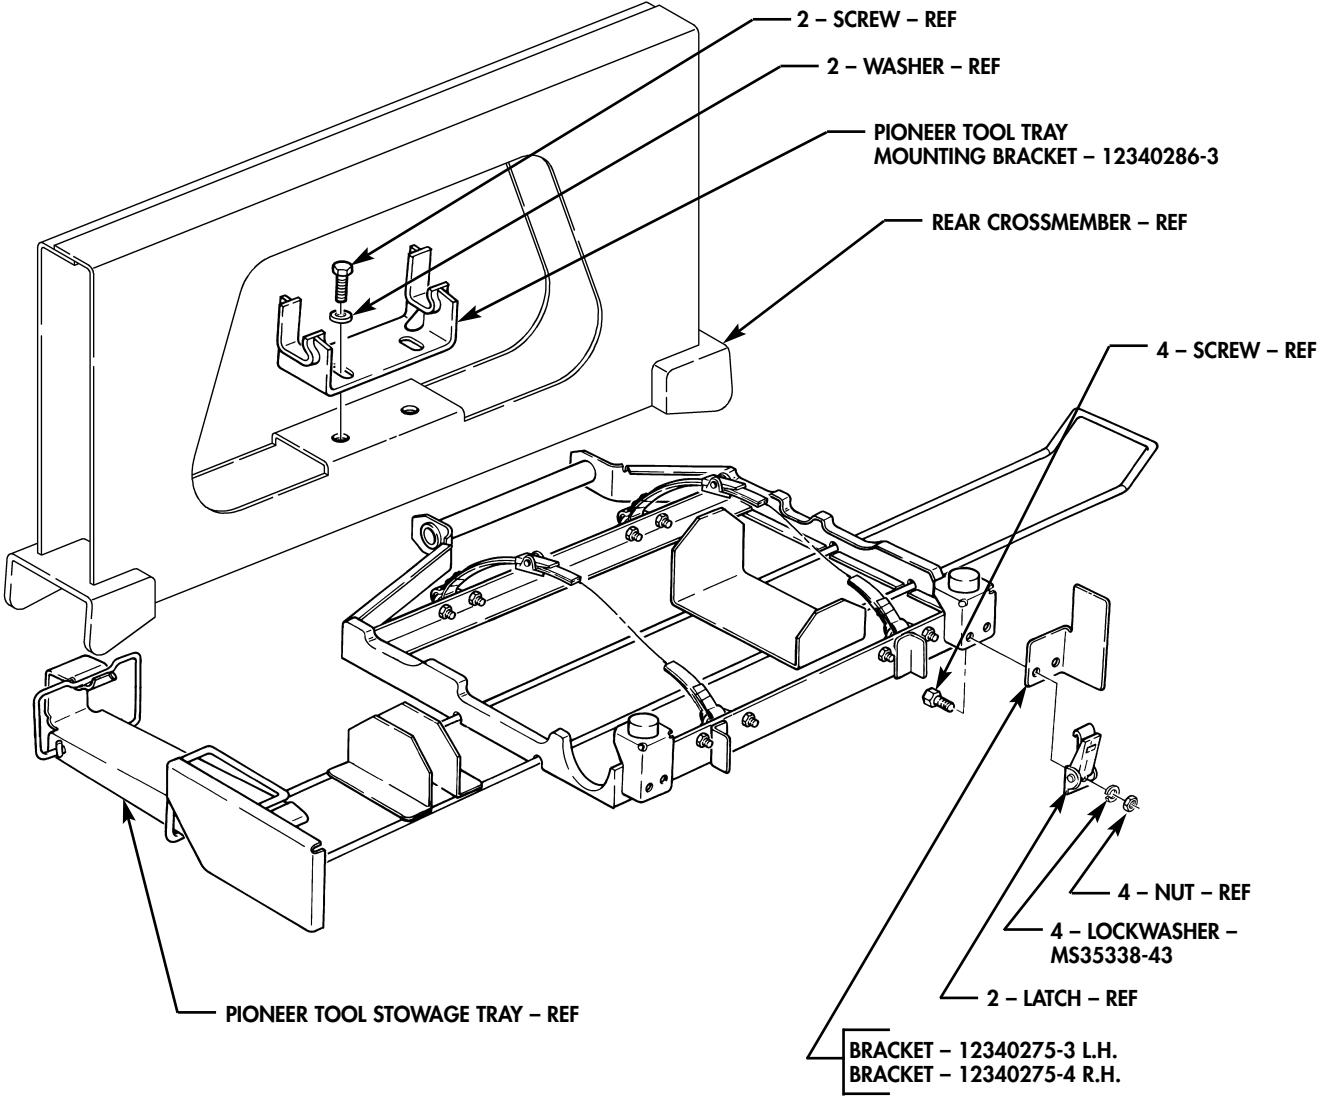

FIGURE 10
- (1) Install 12340286-3 pioneer tool tray mounting bracket on rear crossmember with two existing screws and washers as shown in figure 10.
- (2) Install 12340275-3 and 12340275-4 brackets on pioneer tool stowage tray with two existing latches, four screws, MS35338-43 lockwashers, and nuts as shown in figure 10. Tighten nuts to 16-30 lb-in. (2-3 N·m).
- (3) Install tools on pioneer tool stowage tray. (Refer to TM 9-2320-280-10.)
- (4) Install pioneer tool stowage tray. (Refer to TM 9-2320-280-10.)